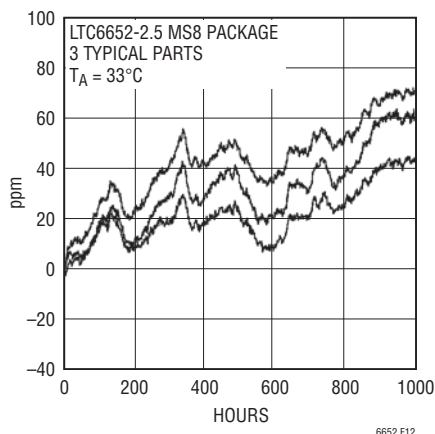

Figure 12. Long Term Drift
**Long-term drift cannot be extrapolated from accelerated high temperature testing. This erroneous technique gives drift numbers that are wildly optimistic. The only way long-term drift can be determined is to measure it over the time interval of interest.** The LTC6652 long-term drift data was collected on more than 100 parts that were soldered into PC boards similar to a “real world” application. The boards were then placed into a constant temperature oven with  $T_A = 33^\circ\text{C}$ , their outputs were scanned regularly and measured with an 8.5 digit DVM. Long-term drift is shown below in Figure 12.